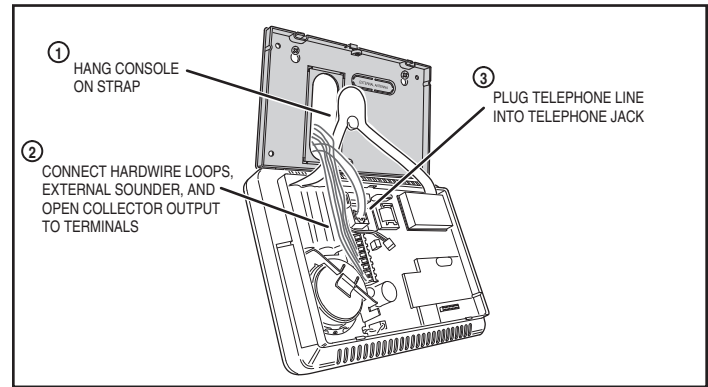

Figure 16. Control Panel Mounting
1. Hang the Control Panel on the mounting plate using the “third hand” strap (see Figure 16).